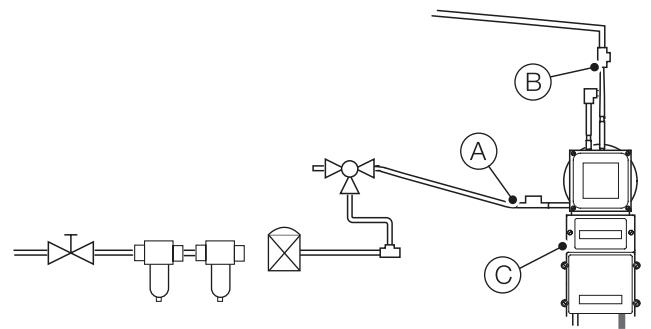

Figure 4 Disconnecting instrument air and test gas supplies
Referring to Figure 4, disconnect air line (A) and test gas line (B) at sensor (C).